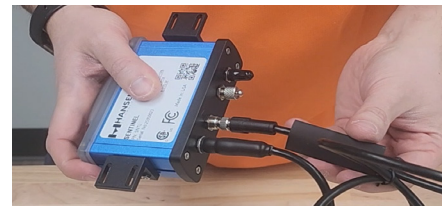

Figure 3
6. Final Seal: Apply and shrink new adhesive-lined heat shrink over the connection. (Figure 3)